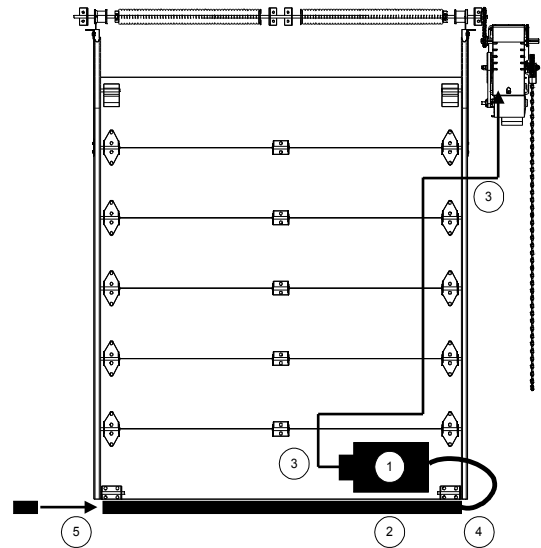

Figure 28 - Reversing Edge
1. Place the air switch in position, refer to Figure 28.
1. Place the junction box in position, refer to Figure 28.